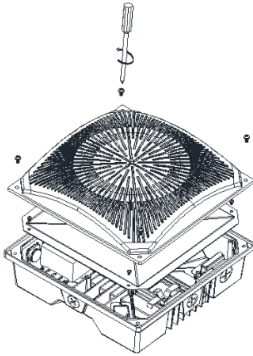

Fig. 1
1. Loosen the screws on the 4 corners and remove the lens and reflector. (Fig. 1)